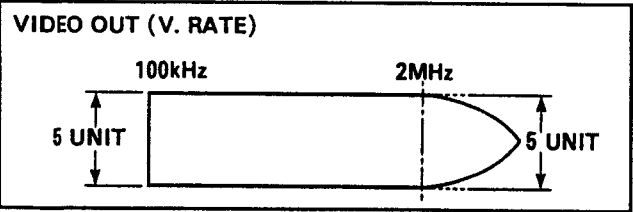

Figure E15
5. Adjust VR3009 so that the playback frequency response becomes 5 : 5.0 ± 1.0 at the marker points of 100KHz and 2MHz as shown in Figure E15.